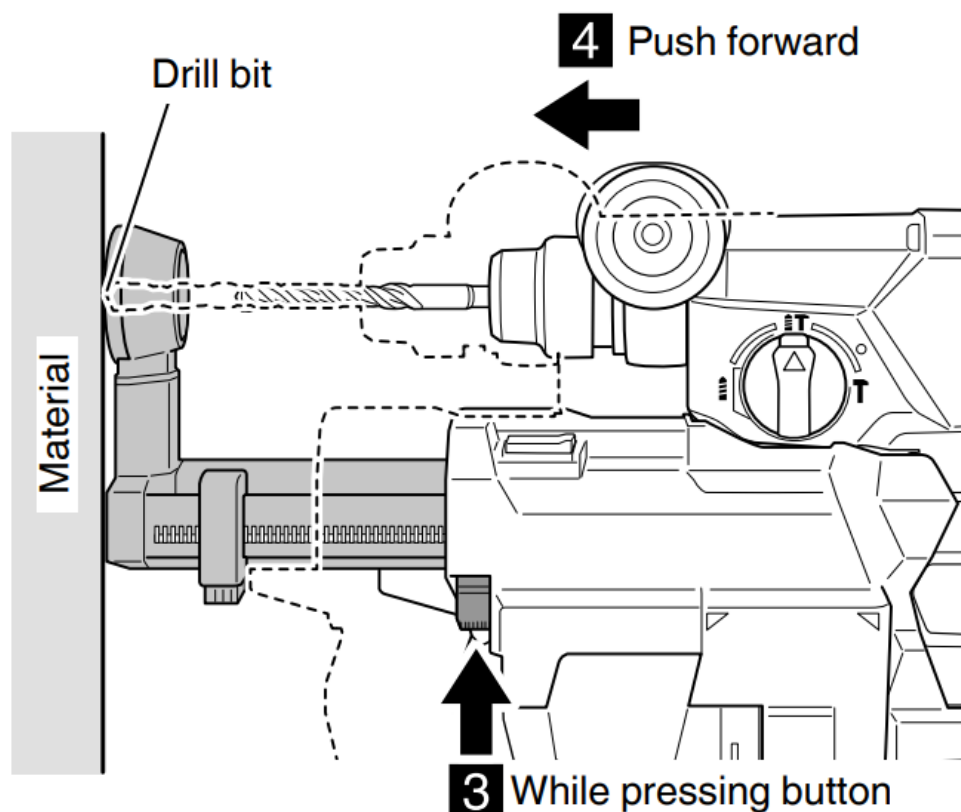

Fig. 6
3. While pushing the nozzle adjustment button in the direction of the arrow, press the tool toward the material, allowing the nozzle position to shorten until it reaches the position where the drill bit comes into contact with the material. (Fig. 6)